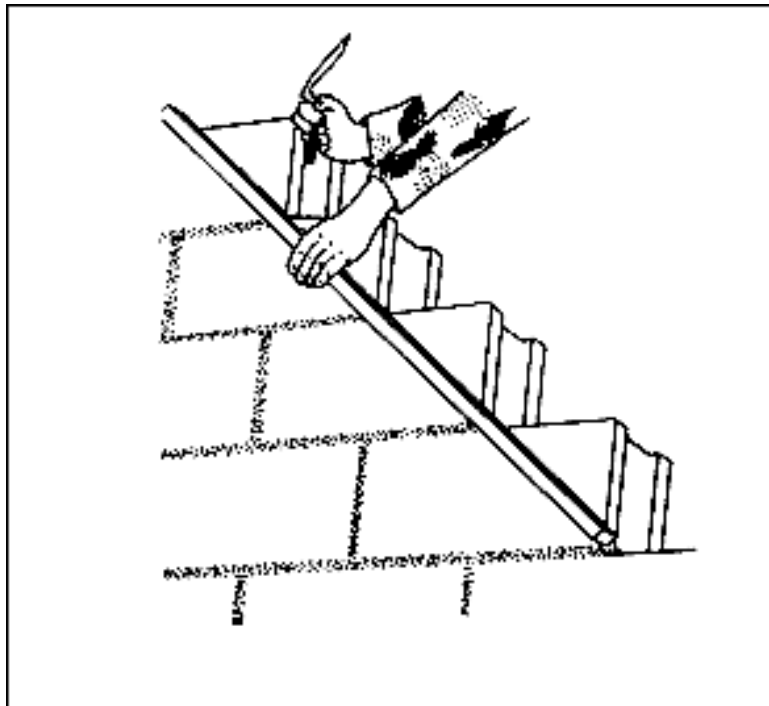

Figure 8-10. Checking horizontal block spacing**LAYING BLOCKS BETWEEN CORNERS**
Step 6. Check the horizontal block spacing by placing a level diagonally across the corners of the blocks as shown in Figure 8-10.